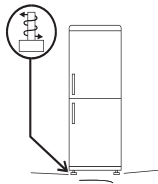

Fig.3
**3** Adjust the feet to ensure the stability of the appliance and prevent vibrations and noise (fig. 3). If the front part is higher than the rear, the door can be closed more easily.